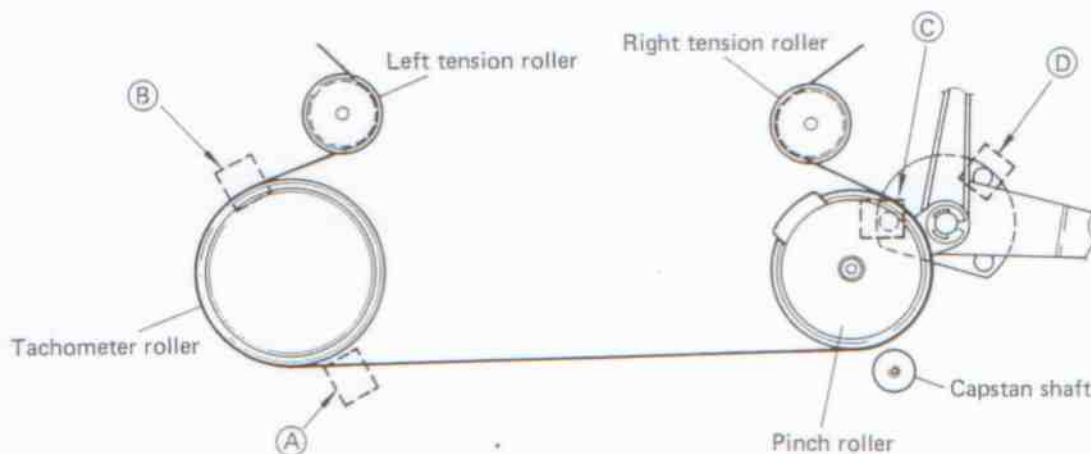

Fig. 4. Tachometer Roller and Pinch Roller Azimuth and Height
- a. slide upward at the pinch roller, apply a shim to recessed side (C) shown in Fig. 4.
- b. slide downward at the pinch roller, apply a shim to outer side (D) shown in Fig. 4.